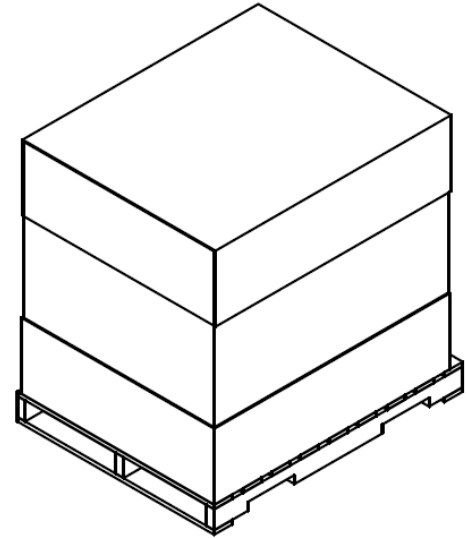

Fig 4.1
1. Inspect shipping container (Fig 4.1) for visible damage upon arrival. If transit damage is found, contact Ergonomic Products immediately (this will expedite the corrective process).